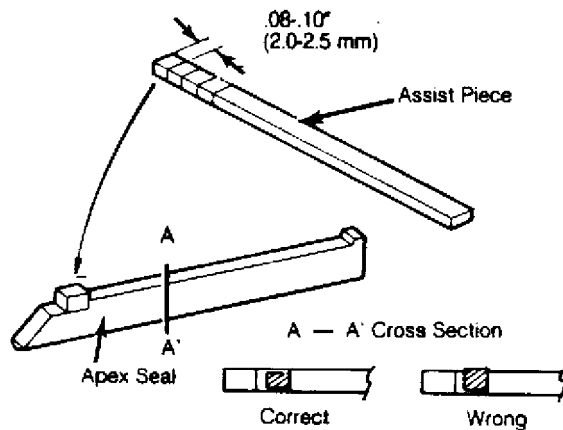

Fig. 20: Installing Assist Piece on Apex Seal
1) Before installing apex seal, cut the assist piece to a length of .08-.011" (2.0-2.8 mm). Peel off paper and install assist piece on apex seal. See Fig. 20.